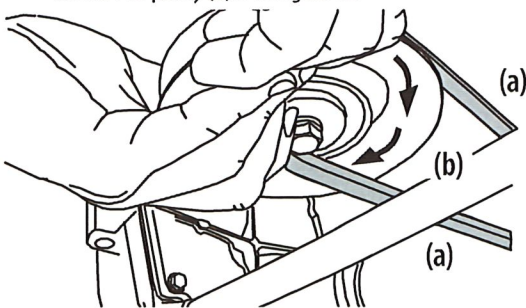

Figure 33
- d. While still holding the PTO belt (a) downward, continue turning the PTO pulley (b) until the PTO belt (a) is rolled off the PTO pulley (b). See Figure 33.
8. Pull the right side of the PTO belt rearward and place the narrow V-side of the PTO belt into the PTO pulley. See Figure 33 on page 27.
9. While holding the PTO belt and PTO pulley together, rotate the PTO pulley to the left (see Figure 33 on page 27). Continue holding and rotating the PTO pulley and PTO belt until the PTO belt is fully rolled into the PTO pulley.